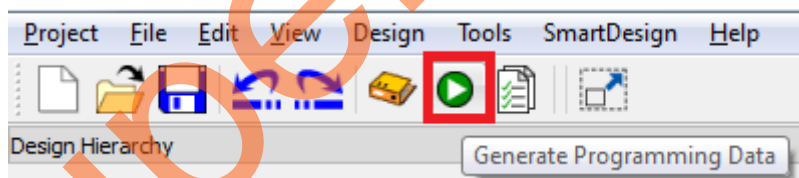

Figure 18 • Generate Programming Data
5. Click **Generate Programming Data** as shown in Figure 18 to complete place-and-route and generate the programming file.